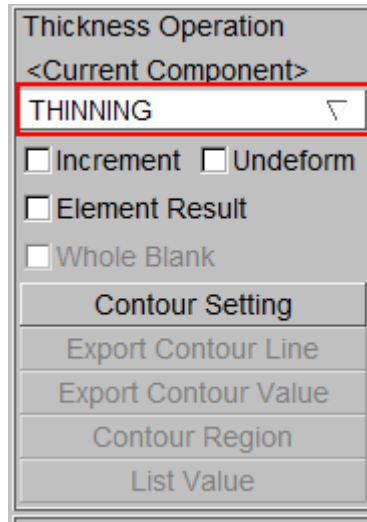

Figure 1.42 Thickness operation dialog box
- Select THINNING from the drop-down, as illustrated in Figure 1.42.